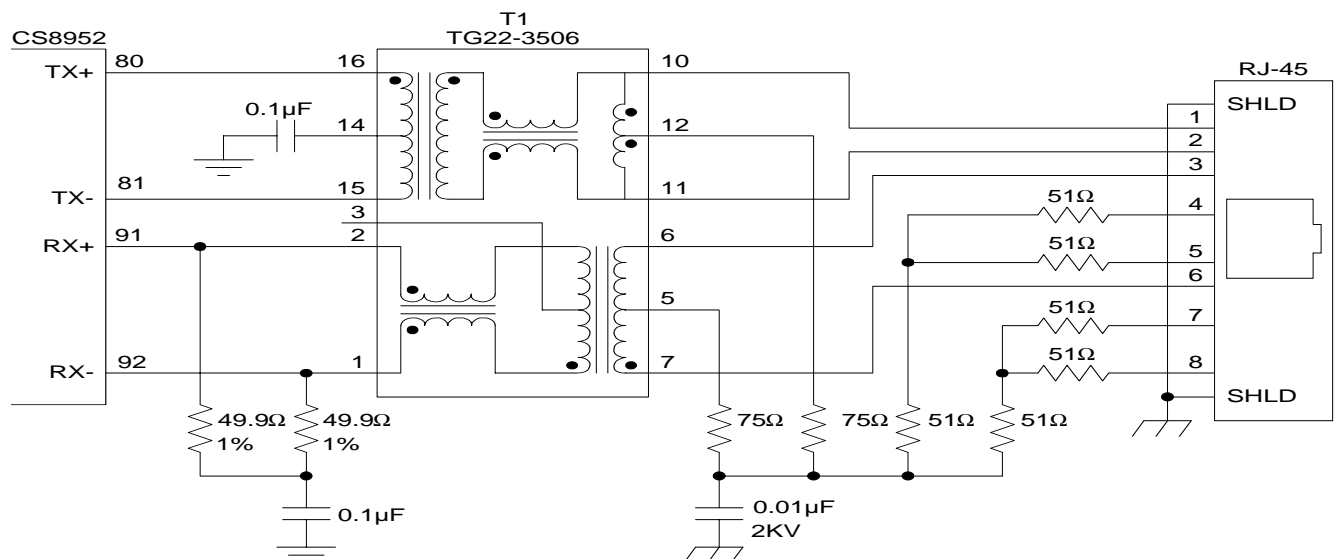

Figure 6. Recommended Connection of Twisted-Pair Ports (Network Interface Card)
The recommended connection of the twisted-pair interface is shown in Figure 6. The unused cable pairs are terminated to increase the common-mode performance. Common-mode performance is also improved by connecting the center taps of the RX and TX input circuits to the DC-isolated ground plane. The 0.01 μ F capacitor C1 must provide 2KV (1,500 Vrms for 60 seconds) of isolation to meet 802.3 requirements. If a shielded RJ45 connector is used (recommended), the shield should be connected to chassis ground.
- Figure 6 shows the CS8952T in a NIC or adapter configuration. It may be configured for a hub or repeater application by changing the wiring to the RJ-45 as shown in Table 11.